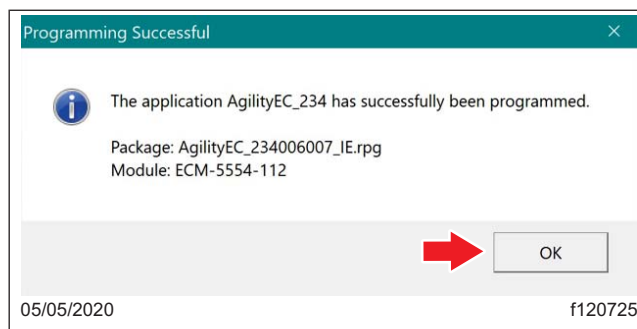

Fig. 28, Programming Successful Window
10. The 'Programming Successful' window will appear. Select 'OK.' See Fig. 28.